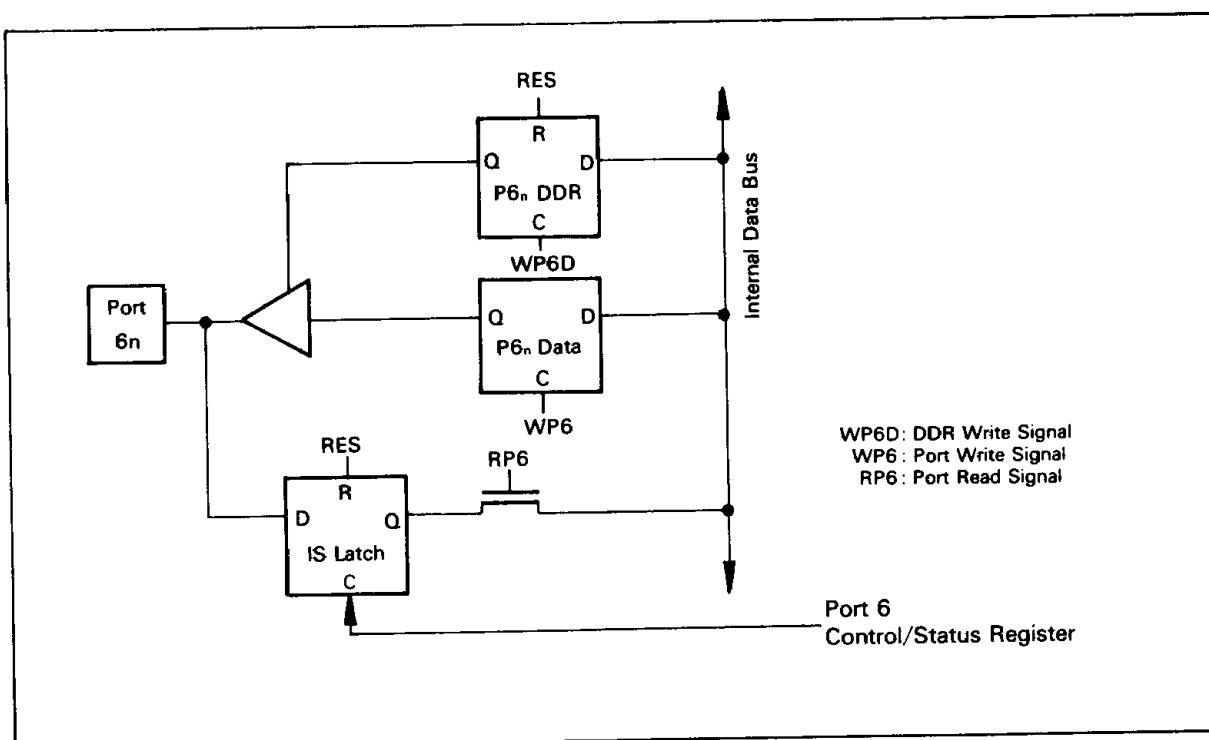
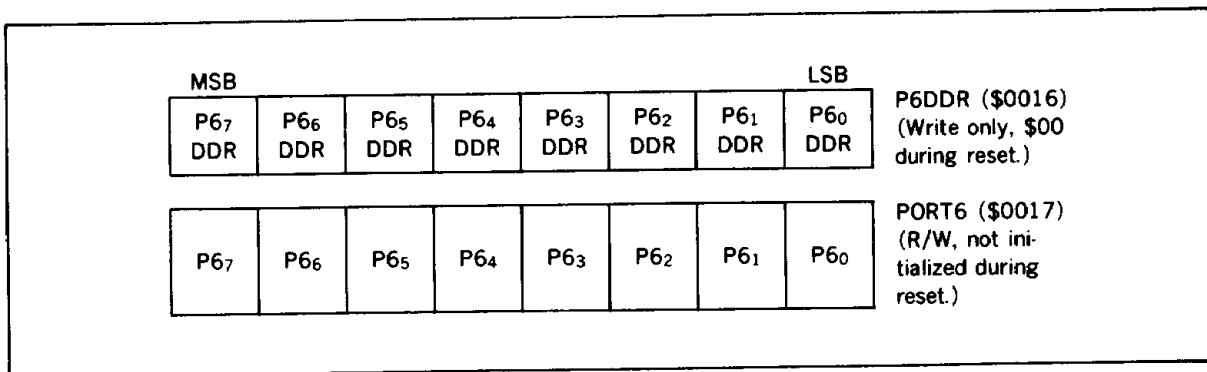

Figure 20. Port 6 Block Diagram
Figure 21. Port 6 Register and Data Direction Register
**Port 6**: Port 6 is an 8-bit I/O port (figure 20). Each bit of the DDR (\$0016) defines the data direction of the corresponding bit of port 6 (figure 21). Port 5 can drive one TTL load and 30 pF capacitance. In addition, it can drive the base of Darlington transistors directly.